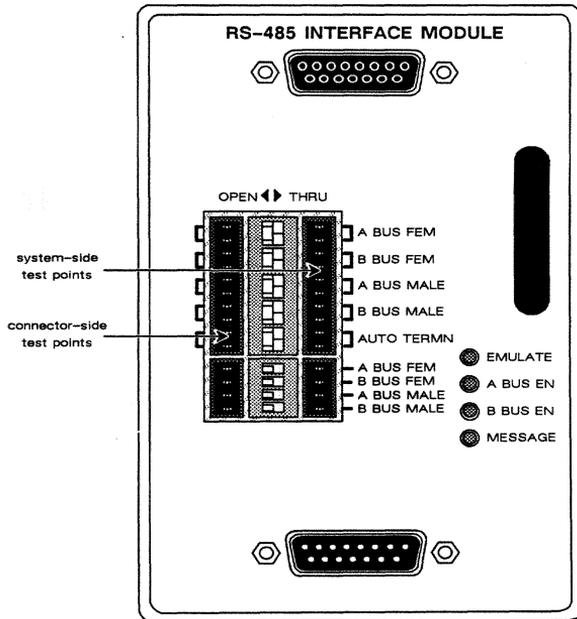

Figure 47-1 RS-485 Interface Module.
Figure 47-1 shows the TIM for the RS-485 interface. **With the unit powered off, insert the TIM into the module slot at the rear of the unit and press until it latches. After booting, the start-up screen will show RC-8245 as the installed TIM.**
The connectors on the RS-485 TIM provide access to either (or both) bus(es). Use the connector(s) to monitor or emulate on either bus *without breaking the circuit*. If you do break a data line for testing, connect one end of the line to the female (top) connector on the TIM (Figure 47-1). Connect the other end of the line to the male (bottom) connector on the TIM. Even when the INTERVIEW is powered off, this provides a through connection for the data line. (For connector pin-designations, consult Table I-7A.)
The INTERVIEW is tied to the digital communications line by the two cable connections on the interface module. Refer to Section (A) above. In between the cables are the INTERVIEW's drivers and receivers and, on the face of the module, a breakout area. The TIM in Figure 47-1 shows the normal settings for all DIP switches.
Figure 47-2 also shows the logical location of the RS-485 TIM's test points. (Refer to Figure 47-1 for the physical location of the test points on the TIM.) Access these test points or reroute the circuits using one of the twisted-pair patch cords provided with the RS-485 module.